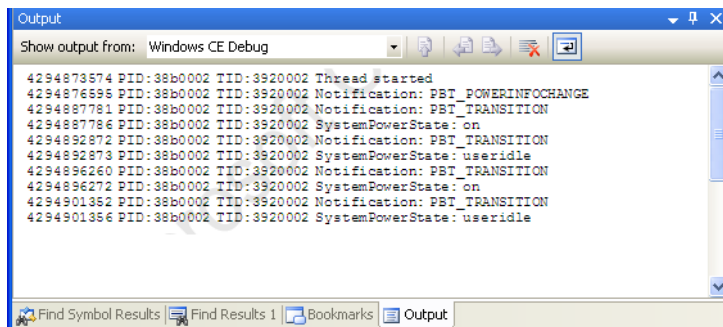

Figure 3-12 Received Power Management notifications
7. You generate user activity by moving the mouse cursor. After five seconds of inactivity, Power Manager should notify the application, as illustrated in Figure 3-12.